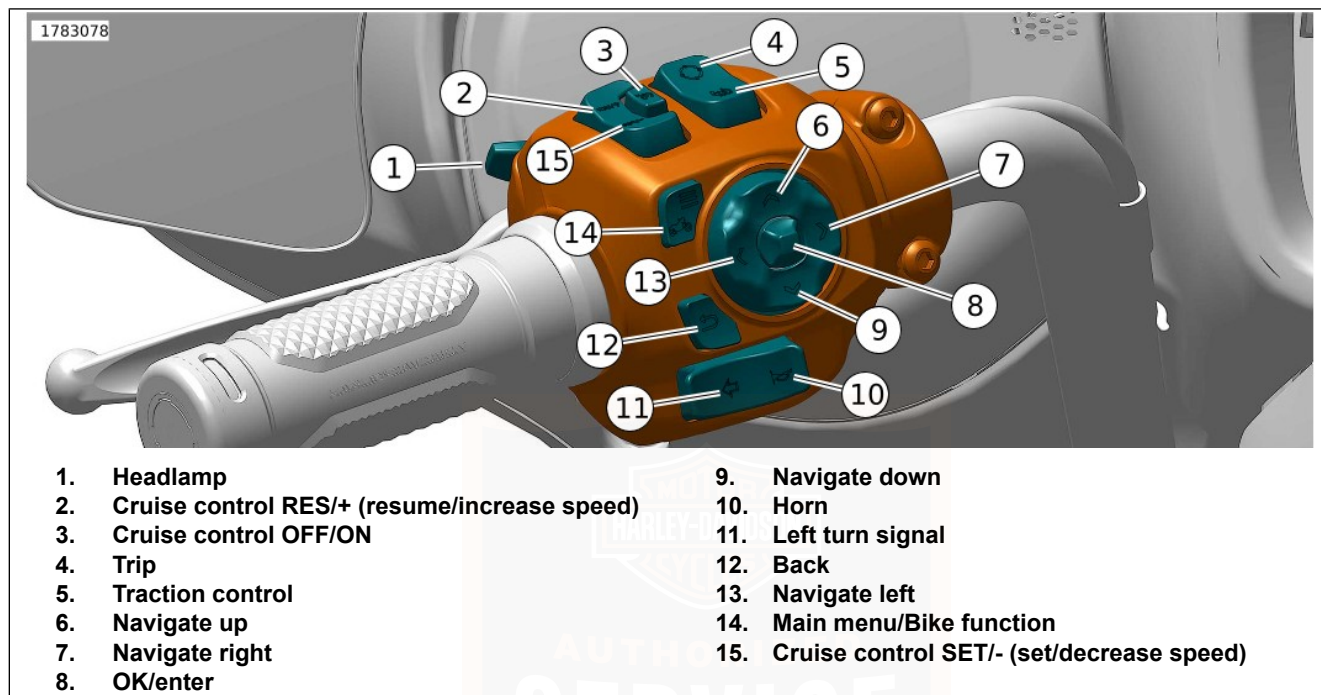

Figure 29. Left Hand Control Module (LHCM)
See Figure 29. **Vehicle off:** Press the trip switch (4) to display the accumulated mileage in the odometer display in the IFCU.
See Figure 29. The CRUISE/SET/RESUME switch assembly (2, 3, 15) automatically regulates the speed of the vehicle. See OPERATION > CRUISE CONTROL (Page 104) for detailed operation. Refer to Table 25.
Activate: See Figure 29. Press the left turn signal switch (11) to activate the left turn signal. Refer to Table 25.
See Figure 29. Press the horn switch (10) to operate the horn. The horn can be activated for up to 10 seconds at a time. If the horn switch is held for a longer period, the horn automatically deactivates. Refer to Table 25.
See Figure 29. The traction control switch (5) activates and deactivates the traction control system. Refer to Table 25.
See Figure 29. The UP/DOWN/RIGHT/LEFT four-way switch set (6, 9, 7, 13) operates radio or media file features on equipped vehicles.
See Figure 29. Press the OK/Enter button (8) to approve or enter the currently highlighted section on the IFCU screen.
See Figure 29. Press the Back button (12) to return to the previous IFCU menu or function.
See Figure 29. Press and release the Main Menu/Bike Button (14): Cycle through the IFCU menus.